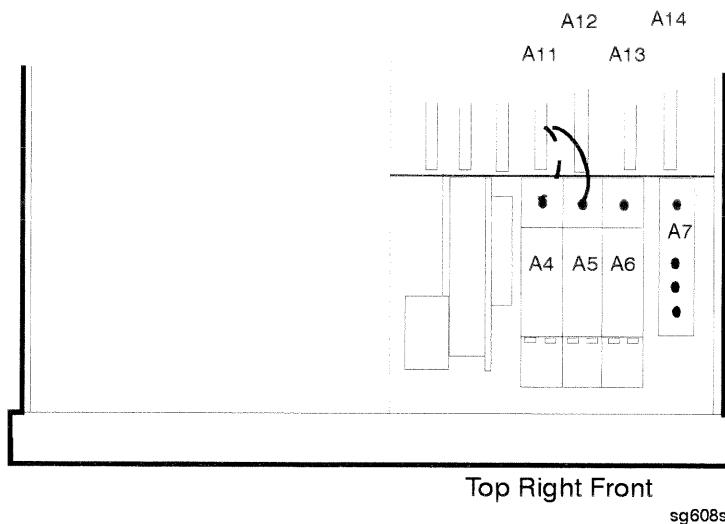

Figure 7-3. Sampler/Mixer to Phase Lock Cable Connection Diagram
1. Remove the W8 cable (A11J1 to A4) from the R-channel sampler (A4) and connect it to either the A-channel sampler (A5) or the B-channel sampler (A6). Refer to Figure 7-3.